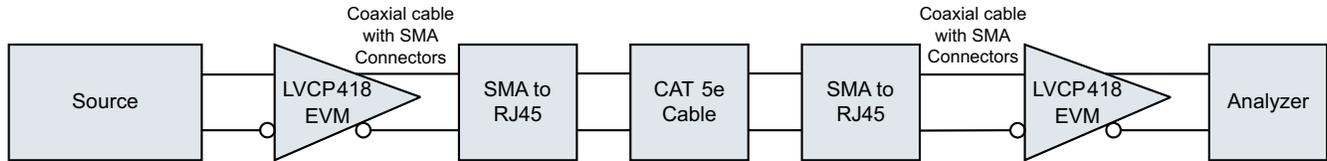

Figure 13. SN65LVCP418/CAT5e Cable Test Setup
Figure 13 illustrates the test setup used to measure the maximum data rate achievable by the SN65LVCP418 over various lengths of CAT5e cable. For each length and jitter tolerance, measurements were recorded for two conditions: (1) pre-emphasis enabled on the transmitting device and equalization enabled on the receiving device and (2) neither pre-emphasis nor equalization enabled.